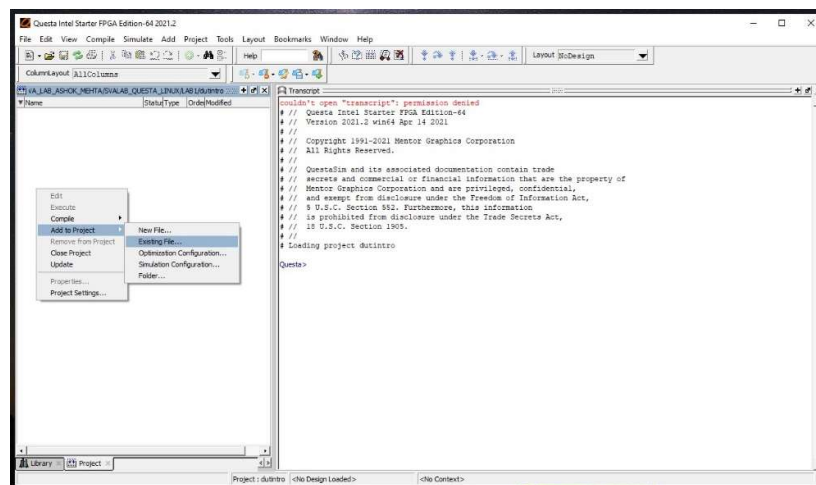
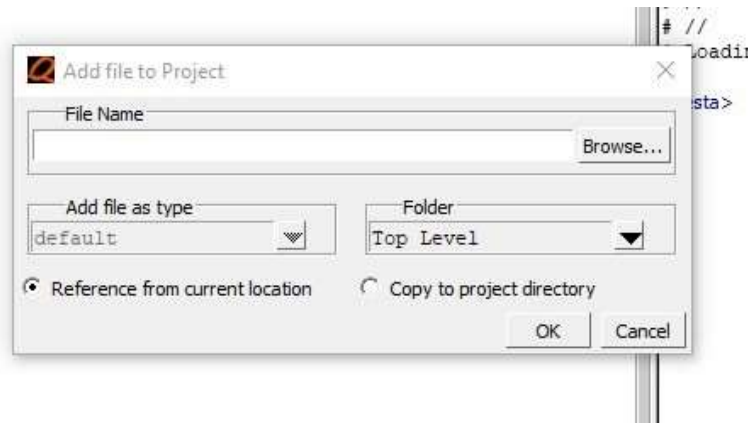

Fig. 6. Started a new project and ready to add files (right click in the project area for these menus to appear).
Fig. 7. Browse and pick the files you need (copy or not the files to the project directory).
- Add existing files or create a new file through the tool editor. When you add existing files, think whether you want to copy the files to the working directory (easier for command line reference to the files) or keep them in the reference directory (Fig. 6 and Fig. 7 in Appendix).